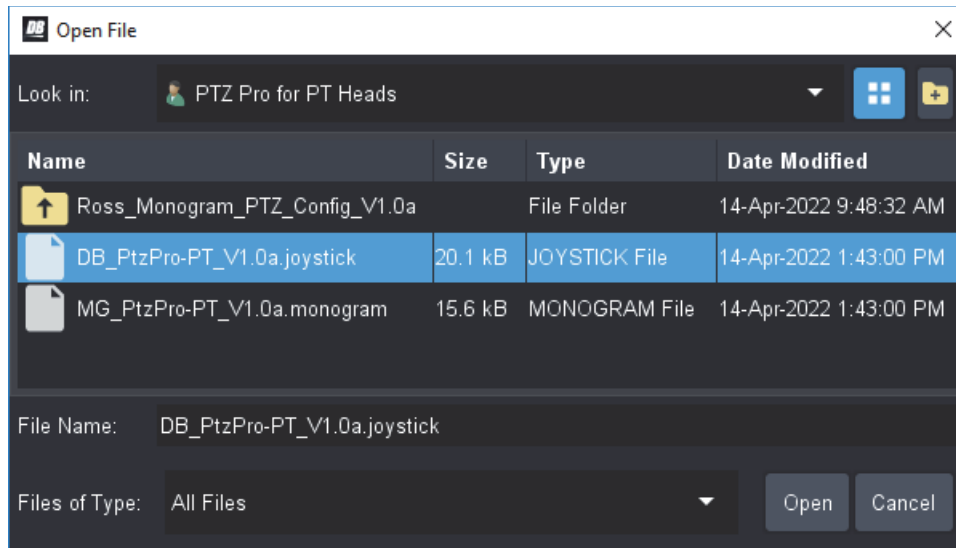

Figure 40 - Selecting and Opening a .joystick File for Controlling PT Heads using the PTZ PRO Package
6. Select the **.joystick** file and then click **Open** (Figure 40).